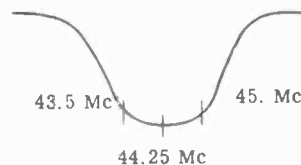

Fig. 30
1. Feed the Mega-Sweep signal to point "D" (pin 5 of the 6AU6 3rd video IF) and adjust T5 until the 44.25 Mc peak appears symmetrically between the 43.5 and 45 Mc markers. See Fig. 30.